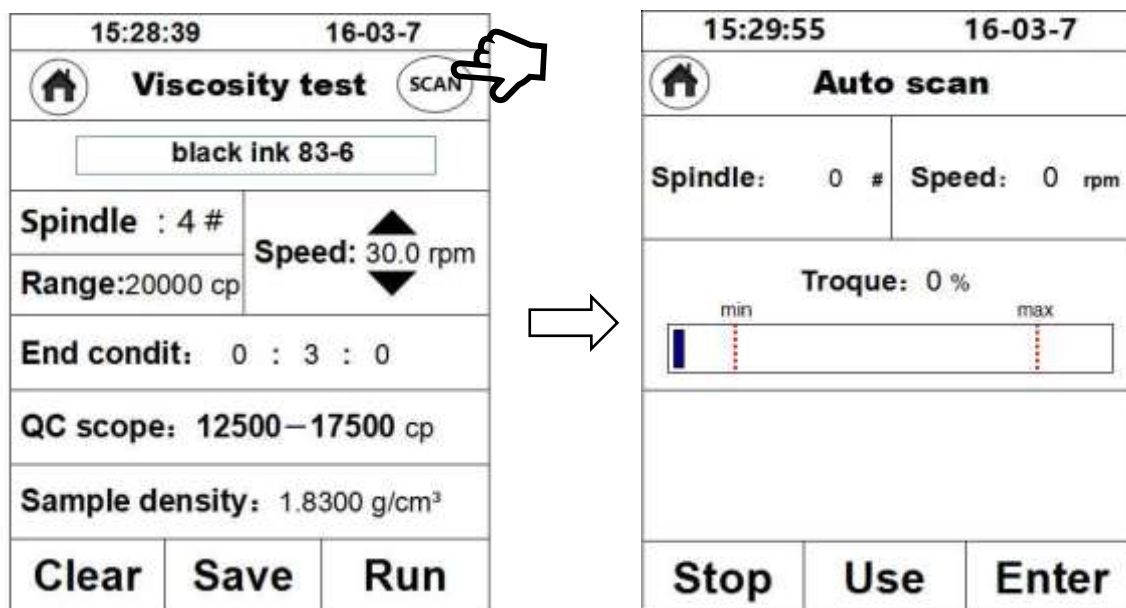

Fig. 25
1.8 Automatic scanning: this function provides the operator with the optimal combination of rotor and rotating speed. Click the “SCNA” at the top right on the parameter setting interface and enter the scanning interface (Fig. 25), set any a rotor and mount the corresponded rotor, start to scan by clicking “Enter”, and the scanning state will be displayed on the “Scan”, and when the scanning result satisfies the test requirement, “Suitable” will be displayed , and then click “Use” to apply the scanning result in the testing parameters. If the scanning result cannot satisfy the test requirement, “Please use a smaller rotor” or “Please use a bigger rotor” will be displayed on the “Scanning result”, and then operate as per the indication on the screen.